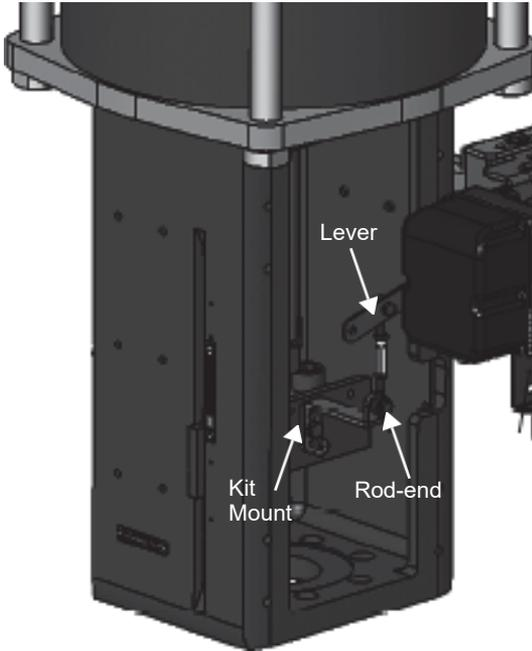

Figure 18 - 84/85/86 Actuator
2. Install the mounting assembly to the yoke (Figure 18) using helical spring washer 5/16, flat washer 5/16 and hex screw 5/16-18x44.5 [1.75] LG.